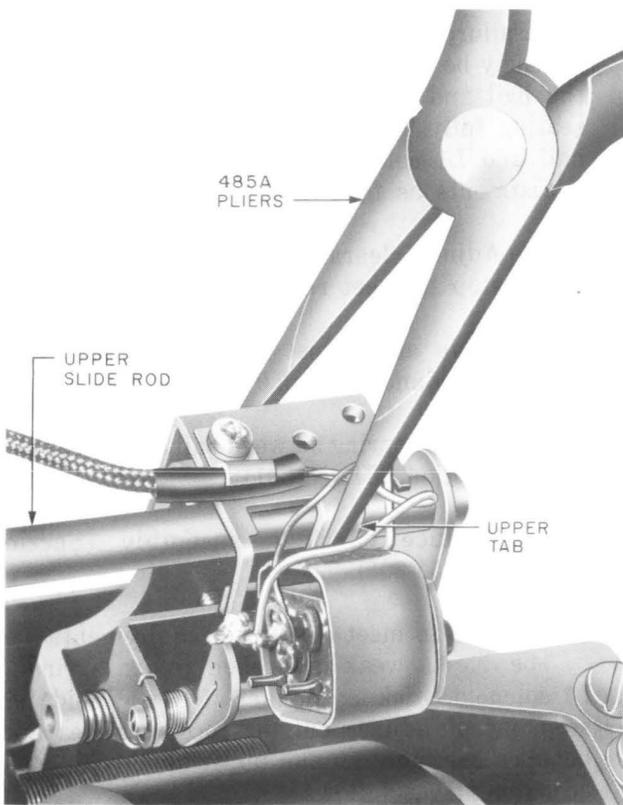

Fig. 13—Method of Adjusting Upper Tab for Minimum Clearance
- (1) To reduce clearance, using the 485A pliers as shown in Fig. 13, bend the tab toward the upper slide rod.